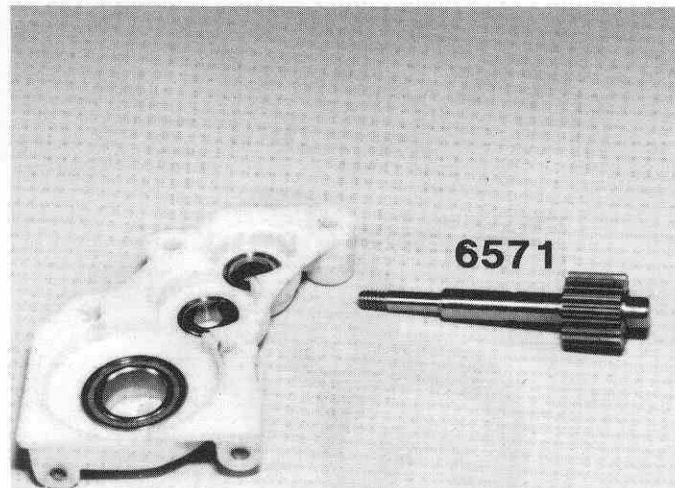

Fig. 49
□ **Figs. 49 & 50** Open Bag D and remove the #6571 drive gear assembly and slide it into the upper bearing in the right hand gear case. It may be necessary to deburr the pin hole to clear the bushing.